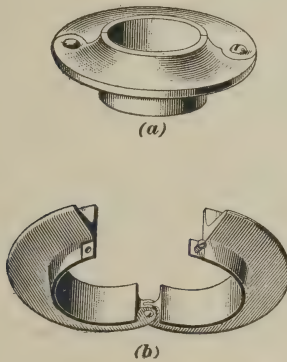

FIG. 62
**90.** Fig. 62 (*a*) shows the **Beaton adjustable floor plate**, while Fig. 62 (*b*) shows the corresponding ceiling plate. They are each made of two hinged halves, which when closed around the pipe are secured by a screw, as shown.